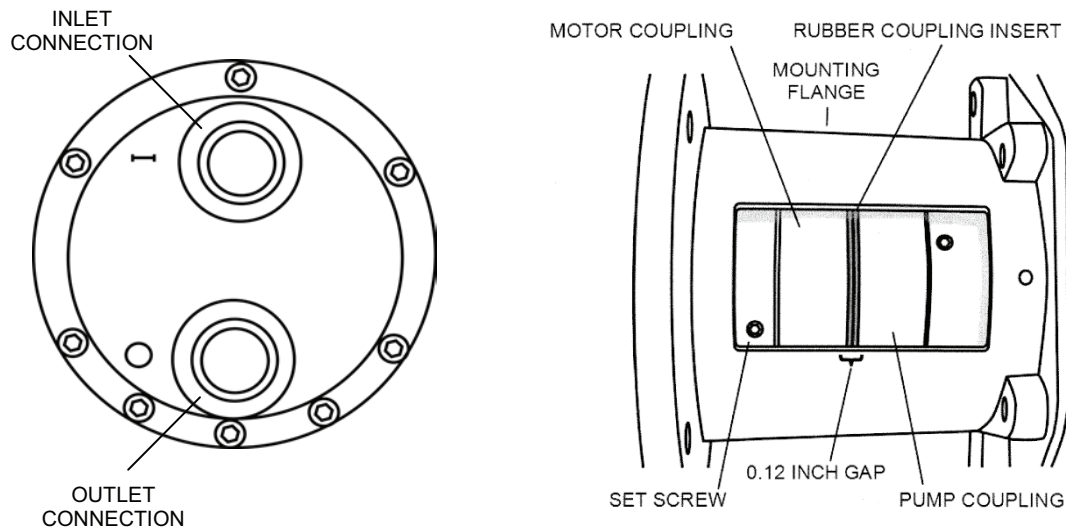

Figure 15. Pump Inlet and Outlet Connections.
- d. Position the pump with the inlet (stamped "I" on the port flange) at the top and the outlet (stamped "O" on the port flange) at the bottom (see Figure 15).
- g. Check that there is a 0.012 in. (3mm) gap between the motor and the pump couplings (see fig. 15). Move the motor coupling as necessary to check that the coupling insert is not pinched or compressed.